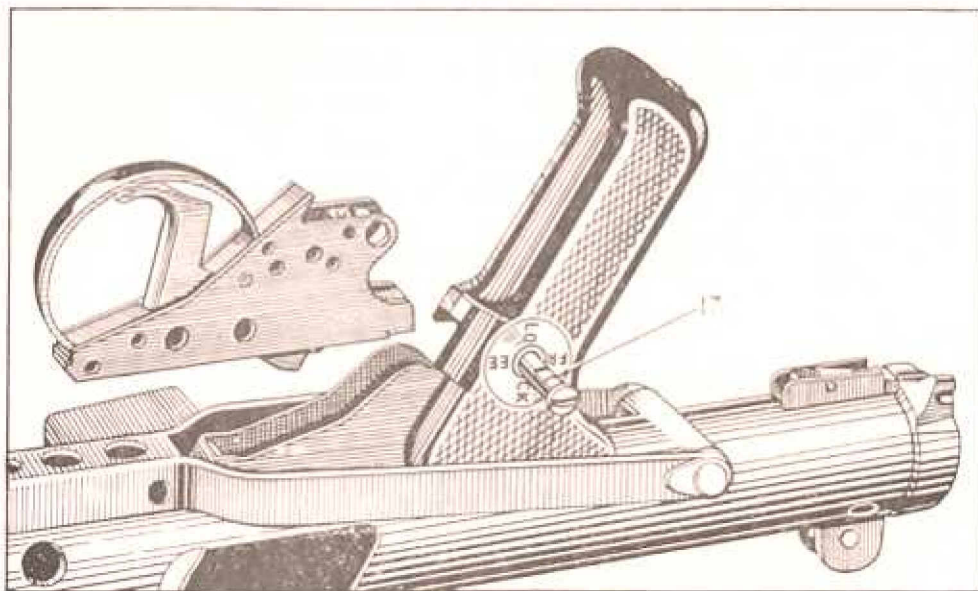

Fig. 11. To remove trigger group
8.2 TO REMOVE TRIGGER GROUP (Fig. 11). Set change lever at " Safe ", and with a small coin or rim of a cartridge turn the slot in the head of the trigger group retaining pin (17) in line with the word " Free " on the right side of the pistol grip. With the nose of a bullet or the blunt end of the cocking handle push trigger group retaining pin out and remove. Pull trigger group towards rear of weapon, disengage from step in underside of barrel case and swing front of trigger group out and remove from body. To remove trigger guard, push out forward pin, swing guard downward, pivoting about its rear fixing, and unhook from underplate.